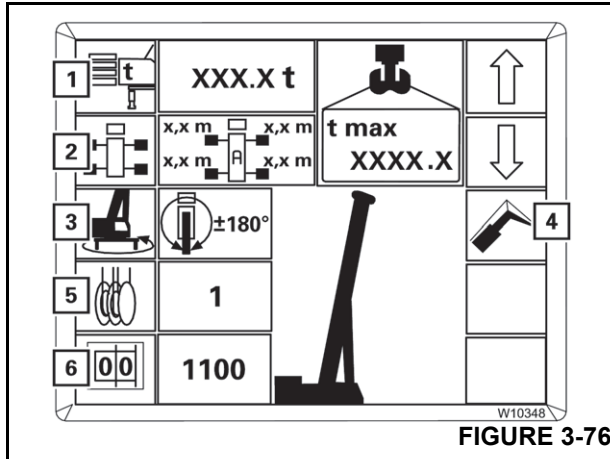

FIGURE 3-76
- Either enter the individual components (1) to (5) (Figure 3-76) one after the other
- Enter the RCL code (6) and the current reeving (5).